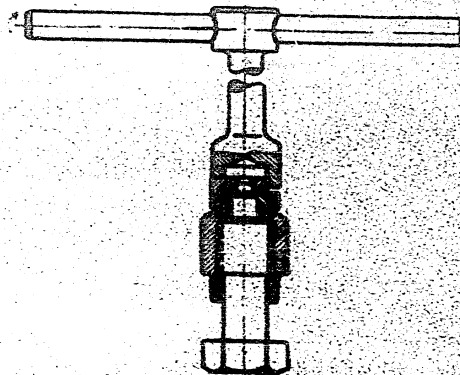

Fig. 20
a) Valve dismantling by means of special tools and a wrench (Fig. 20).